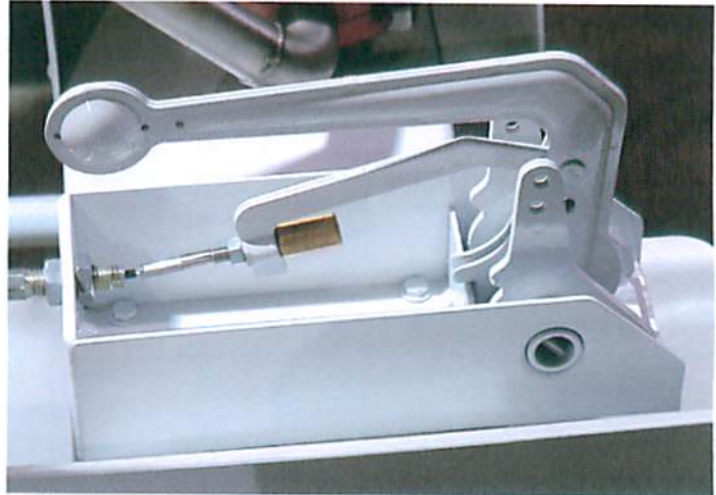

Figure 4.3
- 7 **Fuel Filter Housing** - drain using same type of container, **See Fig. 4.3**